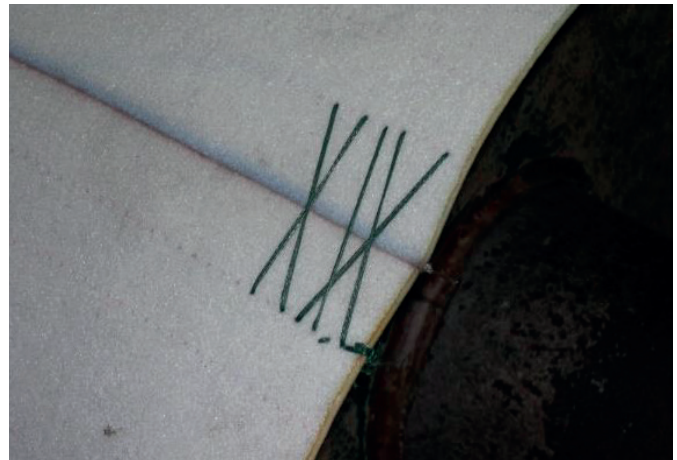

FIGURE 4.
- (Figure 4) Stitch the edges using a cross over stitch.